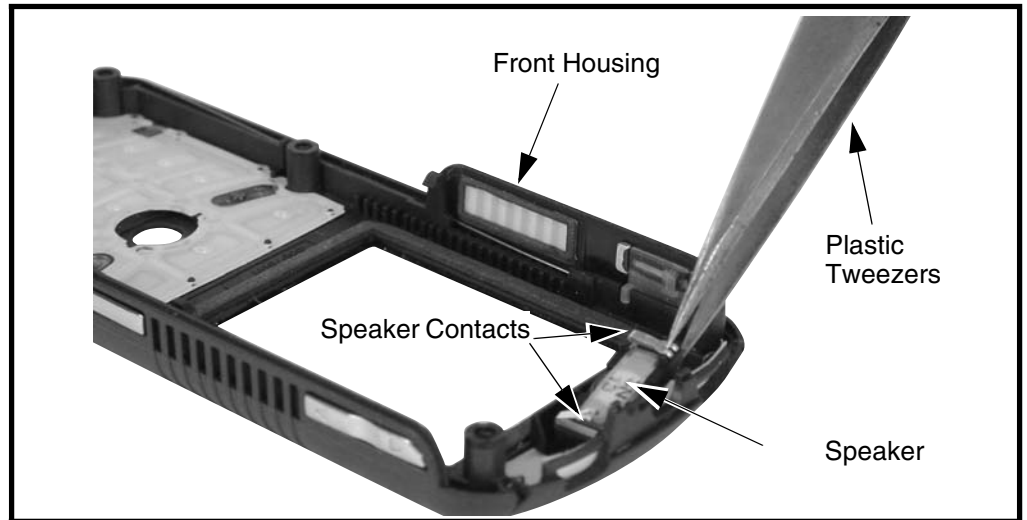

Figure 11. Removing and Replacing the Speaker
2. Use the disassembly tool or plastic tweezers to release the speaker from the front housing as shown in Figure 11. The speaker should come away easily.